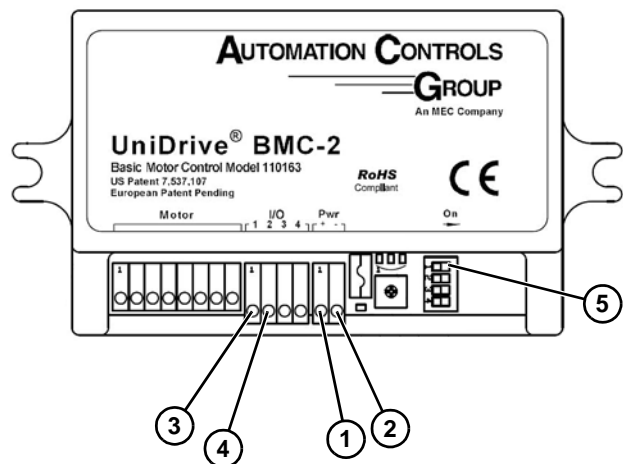

Figure 41
Wire +24 DC (**Figure 41, item 1**) and DC ground (**Figure 41, item 2**) to the driver's power plug.
To run both motors with the belts traveling in the same direction wire an PNP input to Smart input 1 (**Figure 41, item 3**) on one drive and Smart input 2 (**Figure 41, item 4**) on the other drive.
- One time, switch state of dip switch 1 (**Figure 41, item 5**) on the driver board. Dip Switches are only read at start up. After a change is made, cycle power to the unit.